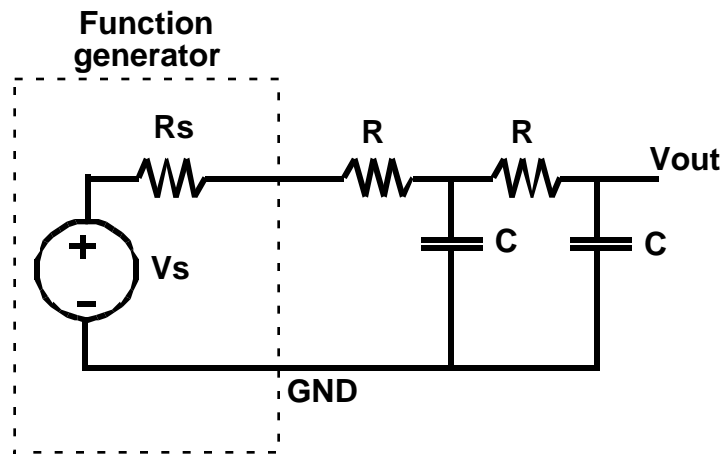

Figure 3. Two cascaded RC sections.
Figure 3 shows two sections of the first-order RC circuit connected in series to illustrate a simple technique to model computer bus systems (PCI bus, SCSI bus, etc.).
Another use of RC circuits is to model wiring characteristics of bus lines on integrated circuits (IC) or on printed-circuit boards (PCB). A wire can be modeled as many cascaded sections of simple RC circuits as shown in Figure 3 using 2 sections. When a square wave is applied to one end of the bus, it takes time for the signal to propagate to the other end. This delay time due to the wire can be calculated based on the values of R and C in each section and the number of sections used to model the wire. The longer the wire, the more sections are needed for accurate model. A wire is also referred to as “interconnect” and the delay due to a wire is also called “interconnect delay.” In high-frequency systems, the interconnect delay tends to dominate the gate delay and is a fundamental constraint on how fast a computer can operate.
1. Build the circuit in Figure 3, using 2 identical resistors $R = 10\text{ K}$ and 2 identical capacitors $C = 0.01\text{ }\mu\text{F}$. Use the same square input as in item 1, section 7.3 above and display it on Channel 1.
1. From the measurements in section 7.4 item 3, are the delay times for the cascaded circuit in Figure 3 (of 2 identical RC sections) twice as large as the delay times for the simple RC circuit? Do the delay times scale with the number of sections? Explain.